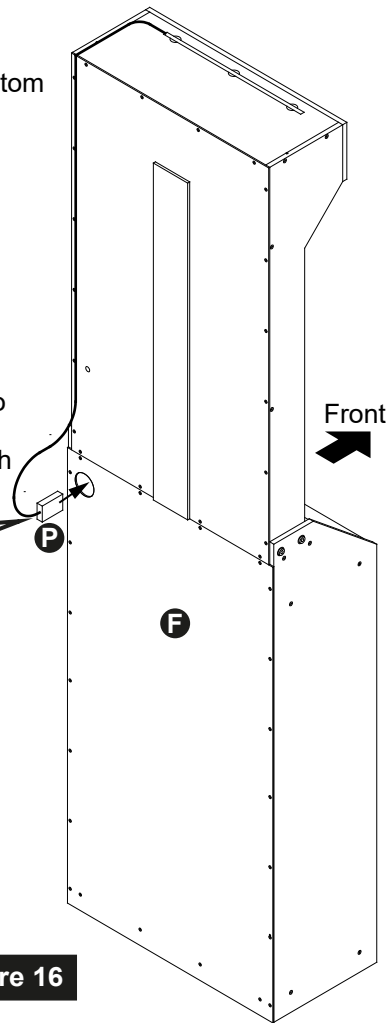

Figure 16
32. Place Part P Battery Box into lower cabinet upper shelf by going through the hole on Part F. See **Figure 16**.